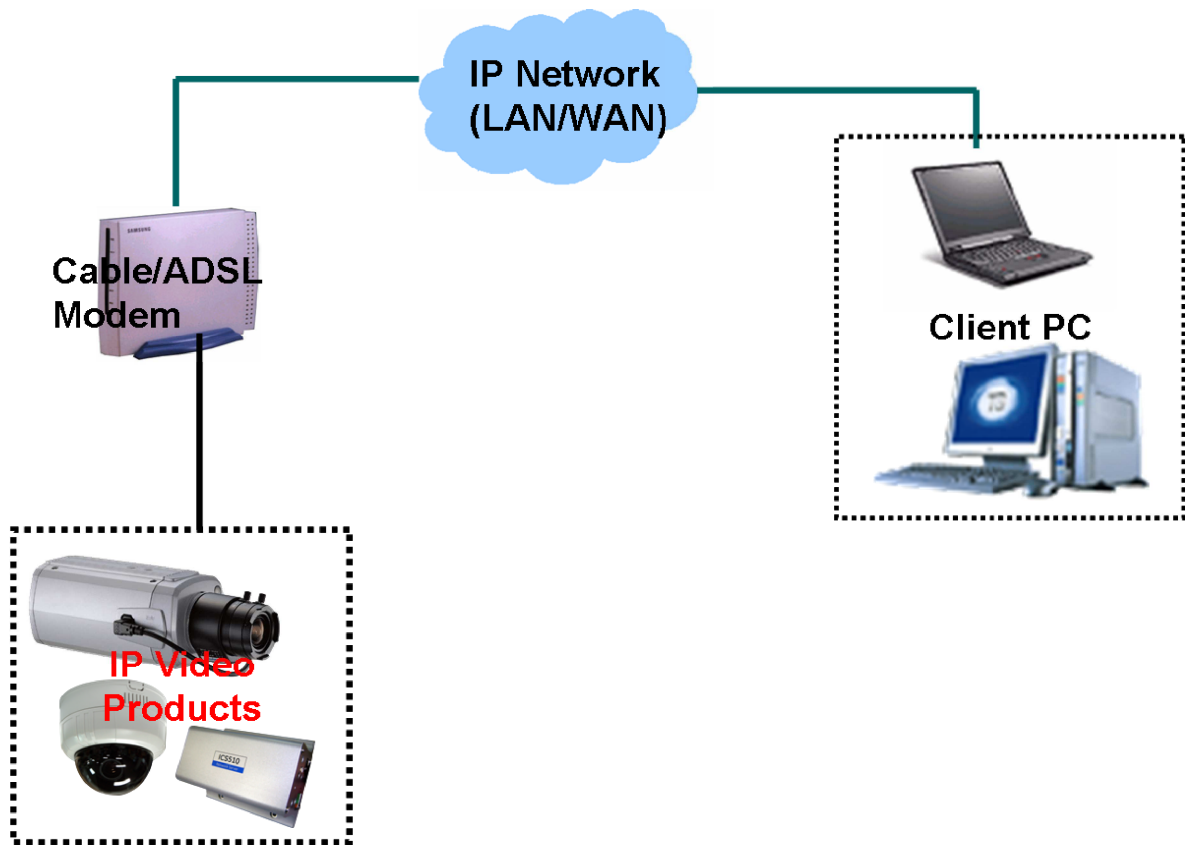

Figure 3-2. Connecting the iCanServer510/510W to ADSL Modem
2. Install iCanServer510/510W and connect it to xDSL or Cable modem as in Figure 3-2.